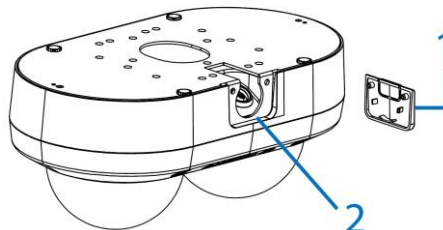

Figure 10
- Insert the side cover (1) (Figure 10) into the slot (2) (Figure 10) on the camera base.